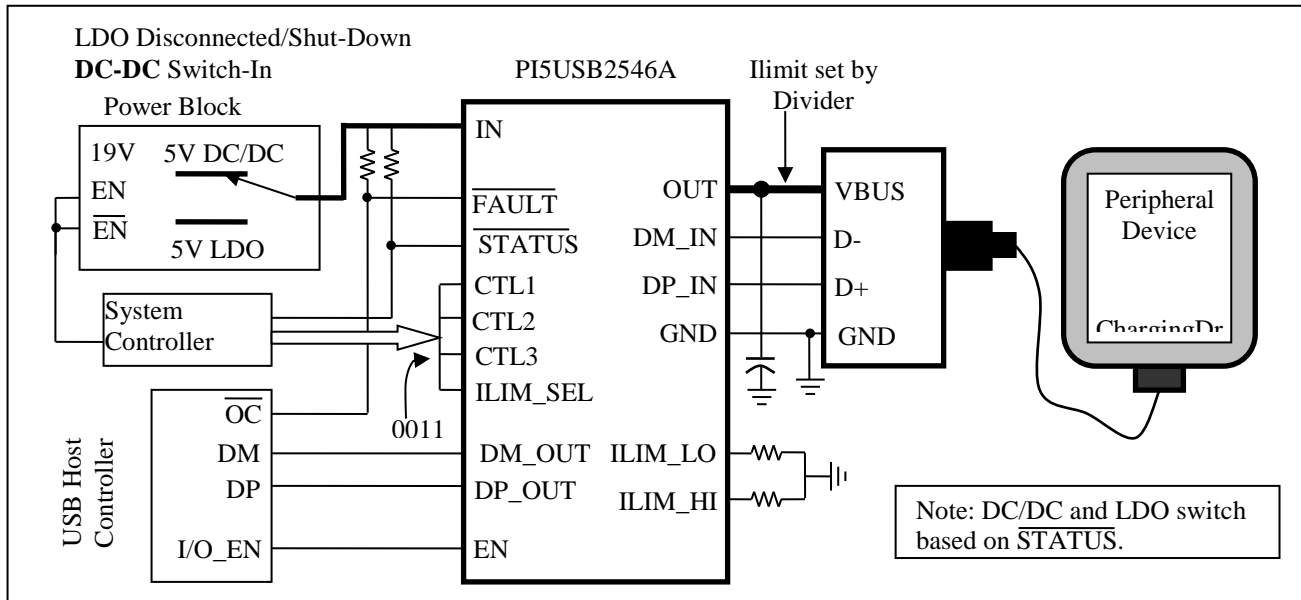

Figure 7, Case 1: System in S4/S5, Device Charging
Following Power Wake flow chart when a device is attached and draws >55mA of charging current the PI5USB2546A will hit its internal current limit. This will trigger the device to assert /STATUS (LO) and turn on the DC-DC converter and turn off the LDO. PI5USB2546A will discharge OUT for >2s (typ.) to allow the main power supply to turn on. After the discharge the device will turn back on with current limit set by ILIM_HI (Case 1, Figure 7)